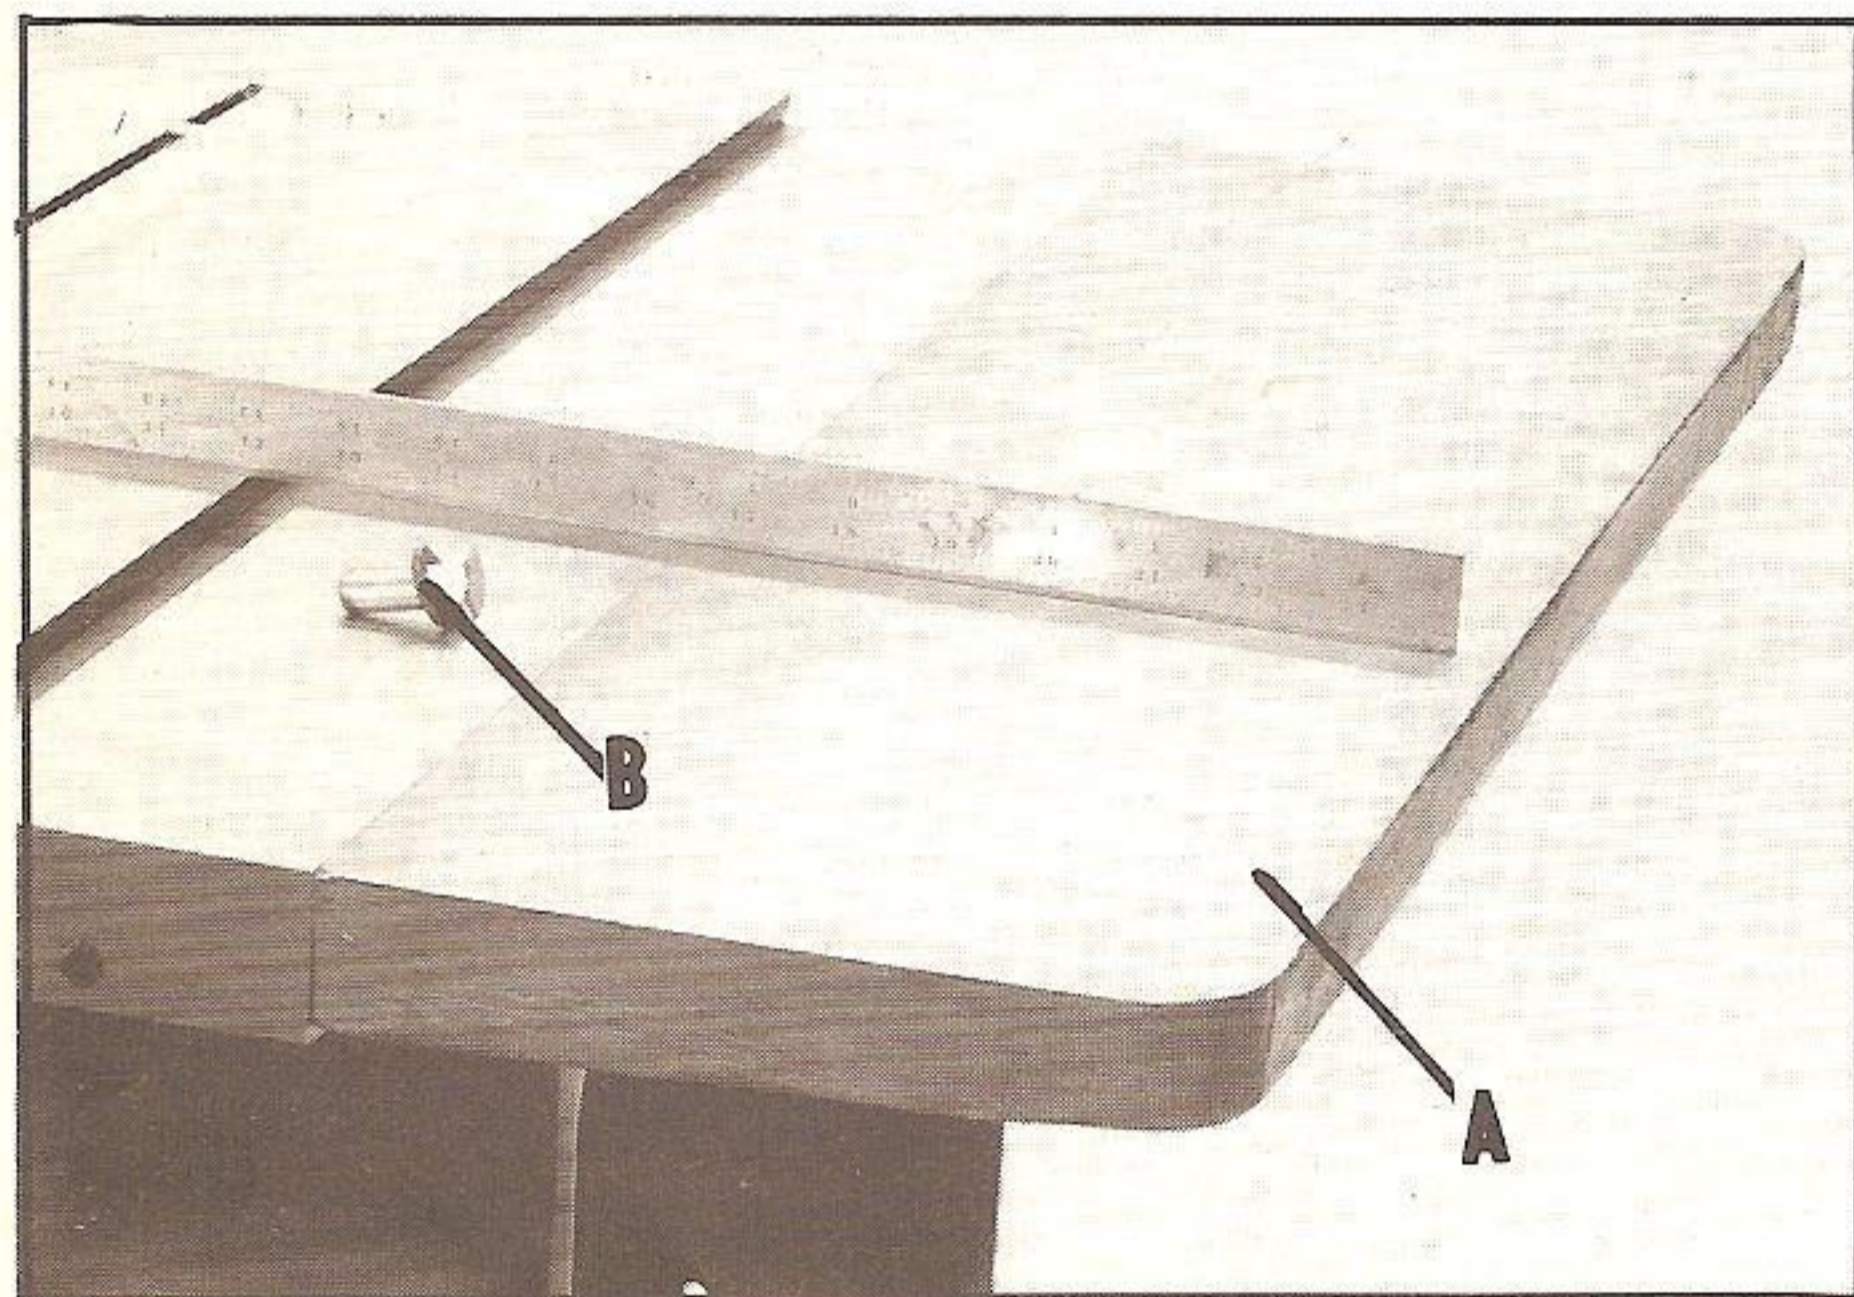

Fig. 5
Assemble the extension wing (A) Fig. 5, to the saw table, using the three screws and washers (B). Use a straight edge to make sure the extension wing is level with the table before tightening the three screws. Assemble the other extension wing to the opposite end of the table in the same manner.